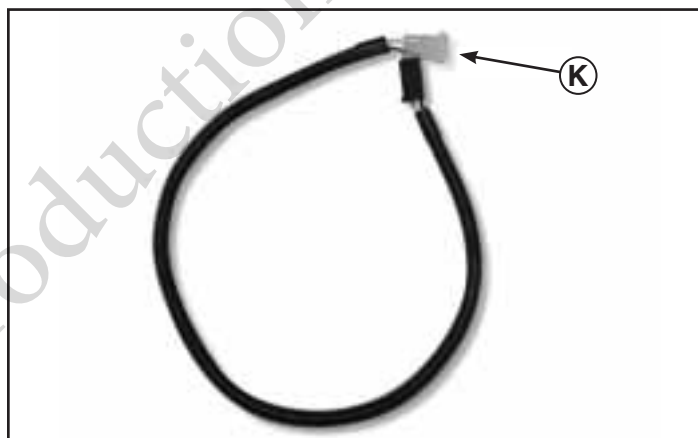

Figure 26
- Plug white female connector end of 26" extension wire harness (K, Figure 26) into existing tractor wire harness.